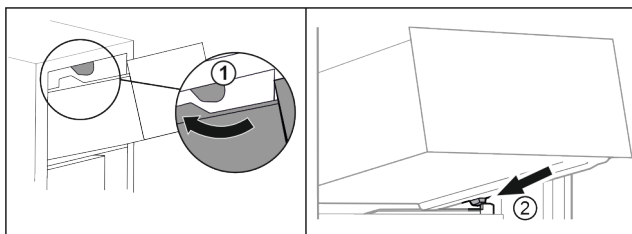

Fig. 56
- Guide drawer around the upper stoppers. Fig. 56 (1)
- Place drawer at an angle behind the lower stoppers onto moulded rib. Fig. 56 (2)